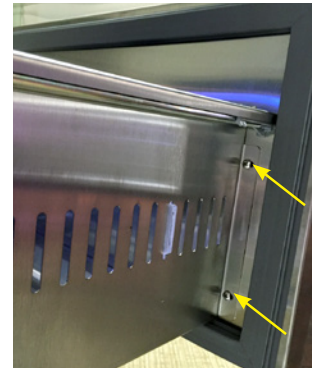

FIGURE 1.
STEP 2 - Locate the two Phillips screws on each side of the drawer frame. See figure 1